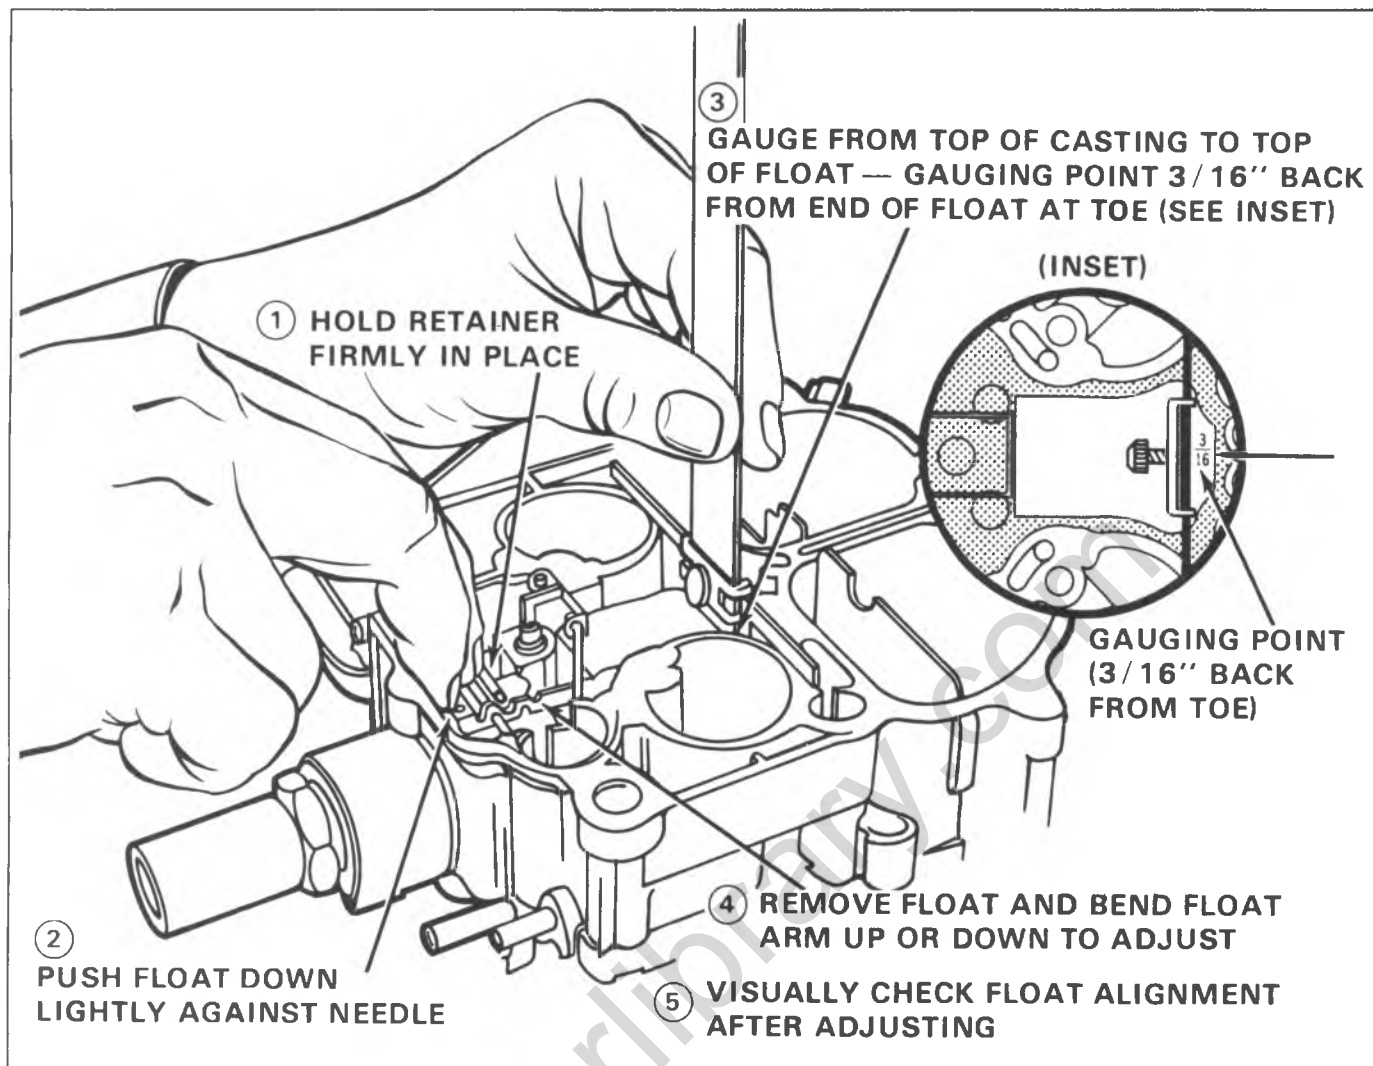

Fig. 6C4-48--Float Level Adjustment
10. Install power piston spring in power piston well. If main metering rods were removed from hanger, reinstall making sure tension spring is connected to top of each rod (Fig. 6C4-32). Install power piston assembly in well (aligning pin on piston with slot in well) with metering rod properly positioned in metering jets. Press down firmly on plastic power piston retainer to make sure the retainer seated in recess in bowl and the top is flush with the top of the bowl casting. If necessary, using a drift punch or small hammer, tap retainer lightly in place.